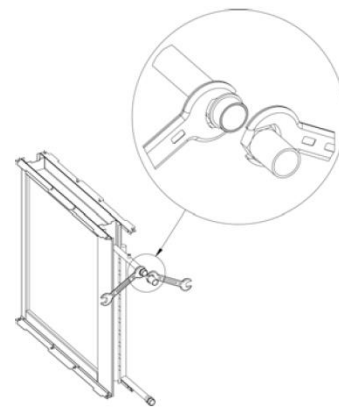

Figure 3 – Coil header connection method
*TO AVOID DAMAGING THE COIL CONNECTIONS AT COIL HEADER, IT IS ESSENTIAL TO HOLD THE HEXAGONAL CONNECTOR WITH TOOLS WHILST APPLYING COUNTER FORCE TO TIGHTEN THE JOINT. (SEE Figure 3)*